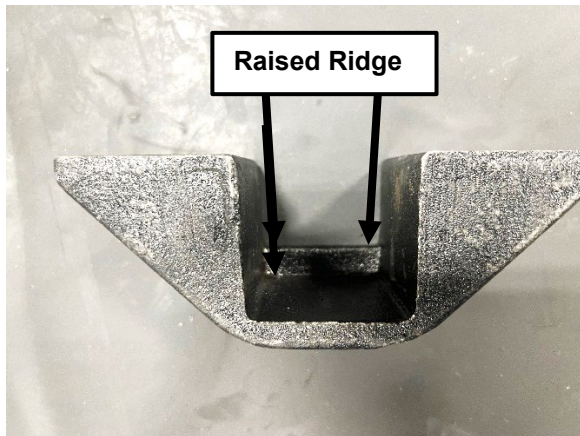

Figure 3
**NOTE:** Install the bracket so that the raised ridge is outside the end of the stabilizer bar. (See Figures 3 and 4.)